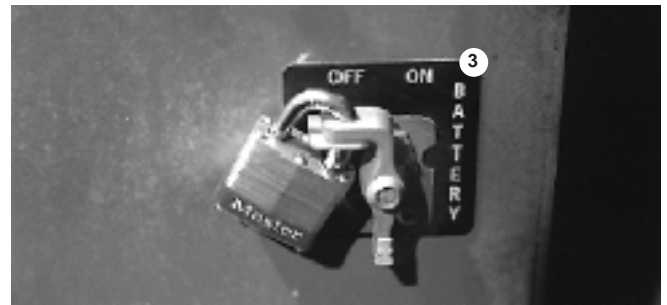

Figure 10.6
2. Set the battery switch (3) (see figure 10.6) to off and padlock it.